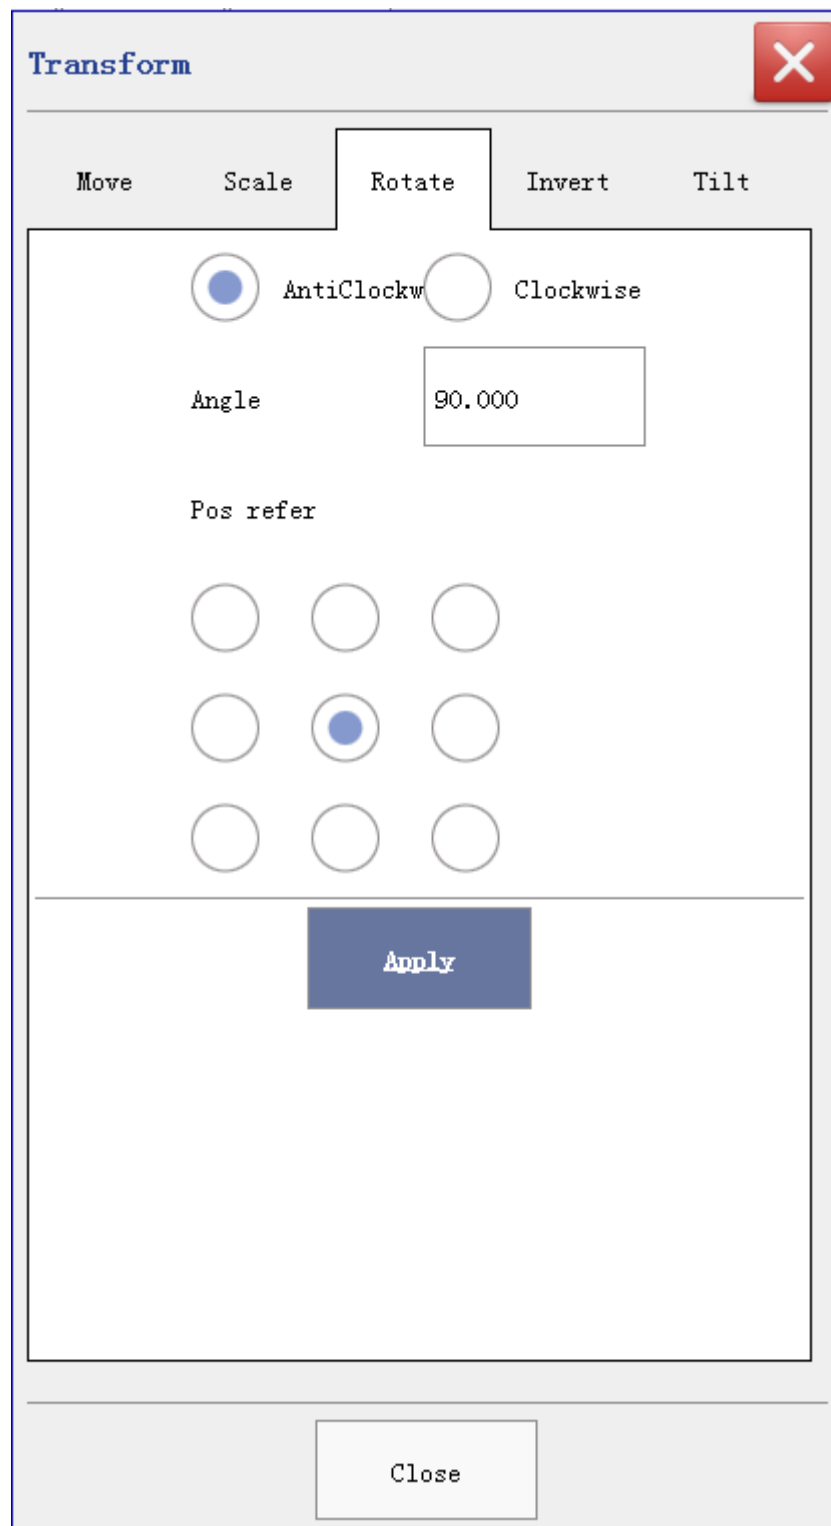

Figure 4-6 Rotate
**Rotate:**User can choose anticlockwise or clockwise to rotate the mark.And the angle is relative angle.As shown in figure 4-6.